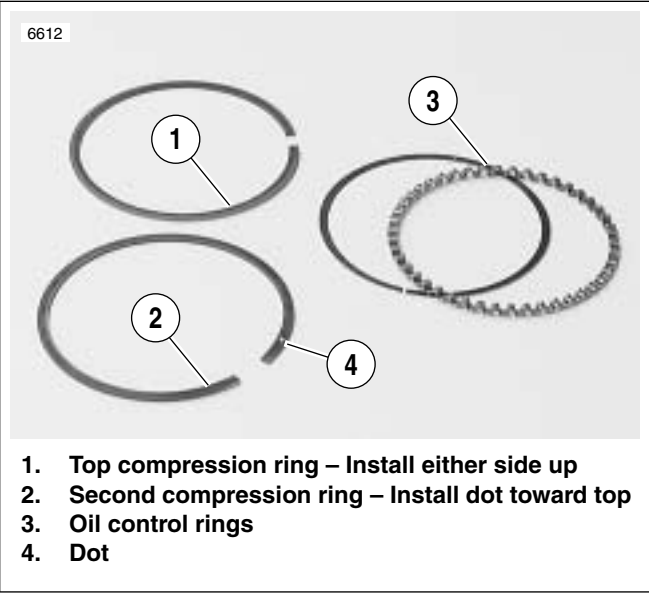

Figure 3-92. Piston Rings
See Figure 3-92. Piston rings are of two types: compression (1, 2) and oil control (3). The two compression rings are positioned in the two upper piston ring grooves. The dot (4) on the second compression ring must face upward.